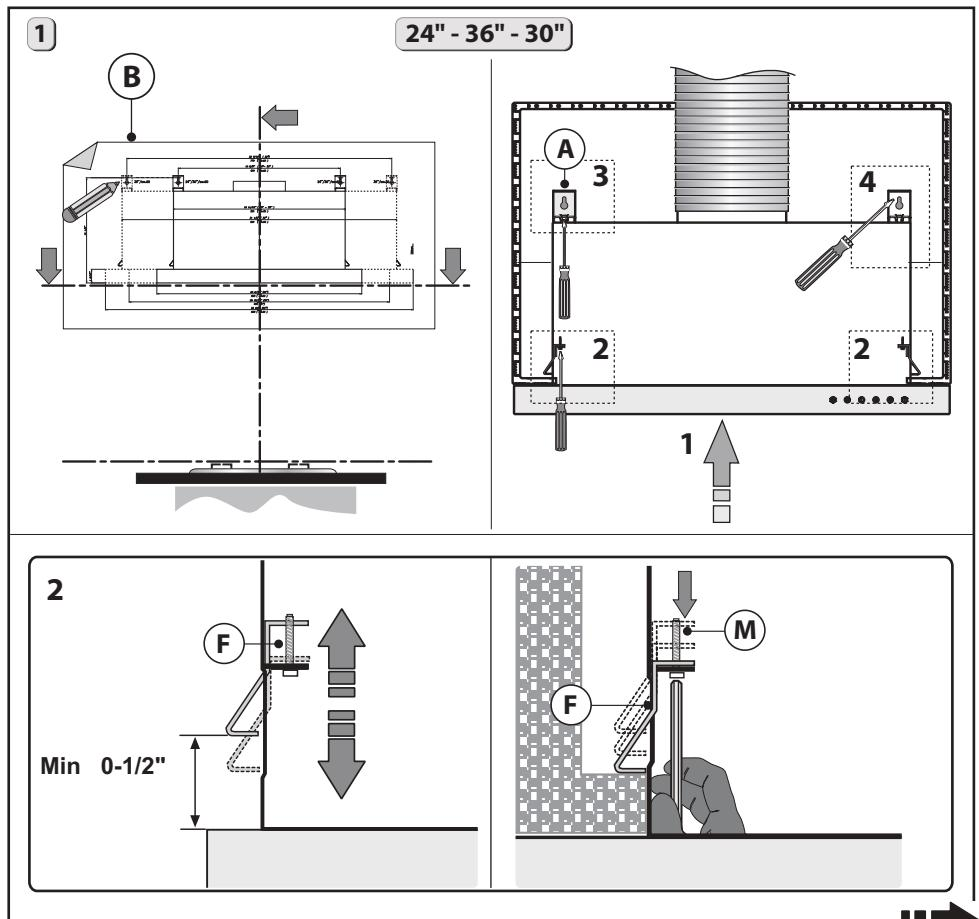

Fig.4
1. Remove pin Y from bracket A. (Pin Y can be discarded.) Then place the insert X on the slot of the bracket A, as indicated in Fig. 4 - step 3.
Match the C screws with the L washer and attach the A bracket to the cabinet as indicated in Fig. 4 - step 3.1. Do not completely tighten screws C to allow the bracket to slide back and forth.
- Mark the references to fasten brackets A to the wall cabinet, as indicated in Fig. 4.
3. Make sure the thickness of the wall cabinet is within the parameters indicated in Fig. 4 - step 2.
firmly against the wall cabinet (Fig. 4 - step 2).
5. Remove pin Y from bracket A. (Pin Y can be discarded.) Then place the insert X on the slot of the bracket A, as indicated in Fig. 4 - step 3.
6. After any adjusting to ensure the bracket touches the wall cabinet, tighten the bracket to the body (Fig. 4 - step 3.3).
- Fasten screw D to the wall cabinet as indicated in Fig. 4 - step 4.
- Once you have fastened the hood to the wall cabinet, adjust the spacer L, with the screws P, to make the device line up with the rear wall cabinet (Fig. 4 - step 5).
- 4 - Install the hood in the wall cabinet and make sure the 2 side springs F are connected correctly. Fasten the hood to the wall cabinet using the screwdriver and the relative screws M and tighten until the device is firmly against the wall cabinet (Fig. 4 - step 2).
- 5 - Fasten the hood to the upper support shelf as indicated in Fig. 5 - step 6. - Once you have fastened the hood to the wall cabinet, adjust the spacer L, with screws P, to fill the gap between the hood and rear wall. (Fig. 4 - step 5).
This model includes side installation to the wall cabinet by using 2 brackets B (Fig. 6 besides steps 3-4, indicated in Fig 4).
- 4- Remove pin Y from bracket A. (Pin can be discarded.) Then place the insert X on the slot of the bracket A, as indicated in Fig. 4 - step 3.
- Match the C screws with the L washer and fix the A bracket to the cabinet as indicated in Fig. 4 - step 3.1. Pay attention not to completely tighten screws C before the bracket firmly reaches the wall cabinet (Fig. 4 - step 3.2). After any adjusting, tighten the bracket to the body (Fig. 4 - step 3.3).
- Once you have fastened the hood to the wall cabinet, adjust the spacer L, with screws P, to make the device line up the rear wall cabinet (Fig. 4 - step 5).